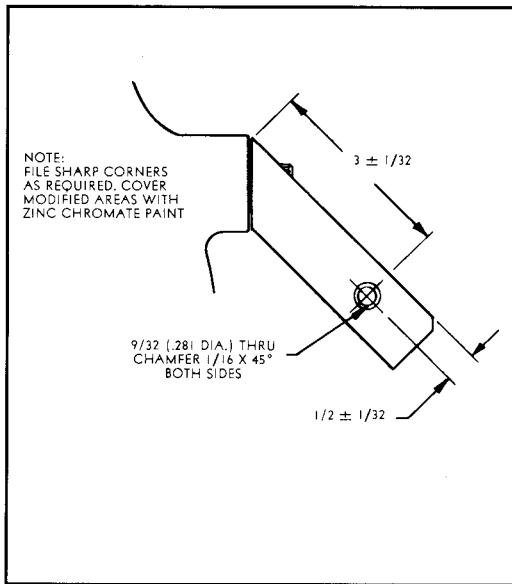

Figure 4 - Counterweight Modification
- a. Drill 9/32" diameter hole in counterweight and chamfer per **Figure 4, page 6**. File sharp corners and apply zinc chromate paint to area.